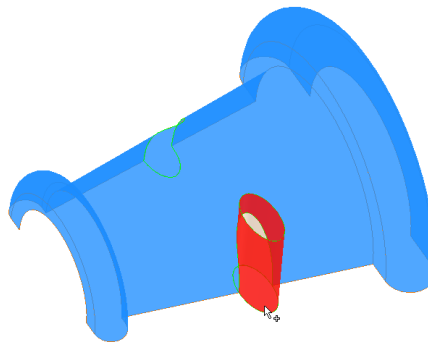

Figure 18-58 Trimming the other extruded surface
- e. Delete faces using the **Delete Face** tool, refer to Figure 18-58.
- Trim the other extruded elliptical surface using the base surface as the trim tool. Note that you need to select the outer portion of the extruded surface to trim, as shown in Figure 18-58.